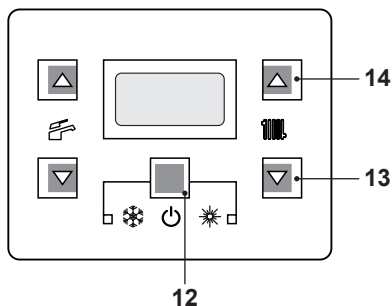
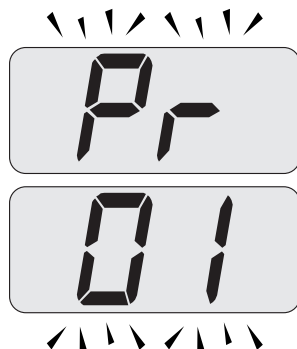
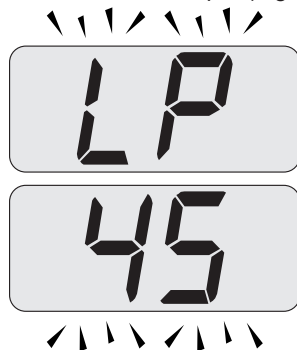

Fig. 10.18
Fig. 10.19
Fig. 10.20
- Enter in "programming mode" by sequentially pressing and holding in keys, 12 - 13 and then 14 (Fig. 10.18) for 10 seconds until the letters **Pr** that alternate with code **01** are displayed on the LCD display, indicating that "parameter 01" (Fig. 10.19) has been activated.
- Press keys 13 and 14 (Fig. 10.18) at the same time until the LCD display displays the letters **LP** that alternate with the heating water temperature value (e.g. **45**), indicating the activation of the "flue sweep function" at minimum output (Fig. 10.20).
- By pressing 14 (Fig. 10.18) it is possible to change power in flue sweep mode: with the letters **hP** on the LCD display which alternate between the heated water temperature (i.e. **32**), we are in the "flue sweep function" at the minimum power during heating (Fig. 10.21).
- Press sequentially keys, 12 - 13 and then 14 (Fig. 10.18) and hold in for 10 seconds to exit the "flue sweep mode" and return to the previously set boiler status (Fig. 10.24).